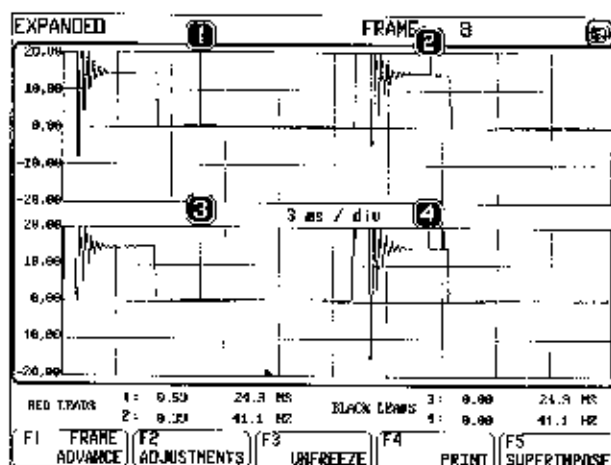

Figure 2-24
From the "Dual Trace Scope" screen, press [F3]. The message "Please Wait - Recording Waveforms" will appear. After the analyzer has recorded twenty (20) frames, an "expanded" screen will appear (see Figure 2-24). The analyzer will repeatedly display the recorded sequence one frame at a time.